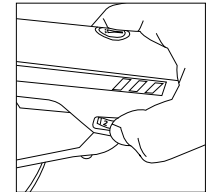

figure 4
4. Press the power button to start running the tool. Press the power button again to stop the tool. - see figure 4.